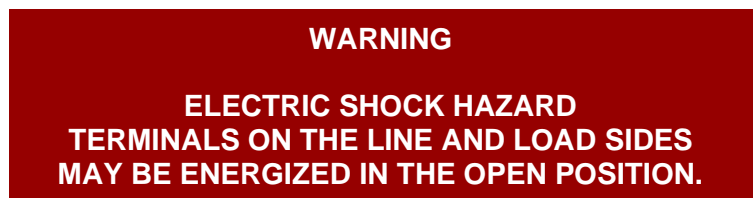

Figure 4.
- For PV system disconnecting means where the line and load terminals may be energized in the open position, the device shall be marked as shown in *Figure 4* or with an equivalent. [CEC 690.13(B)]